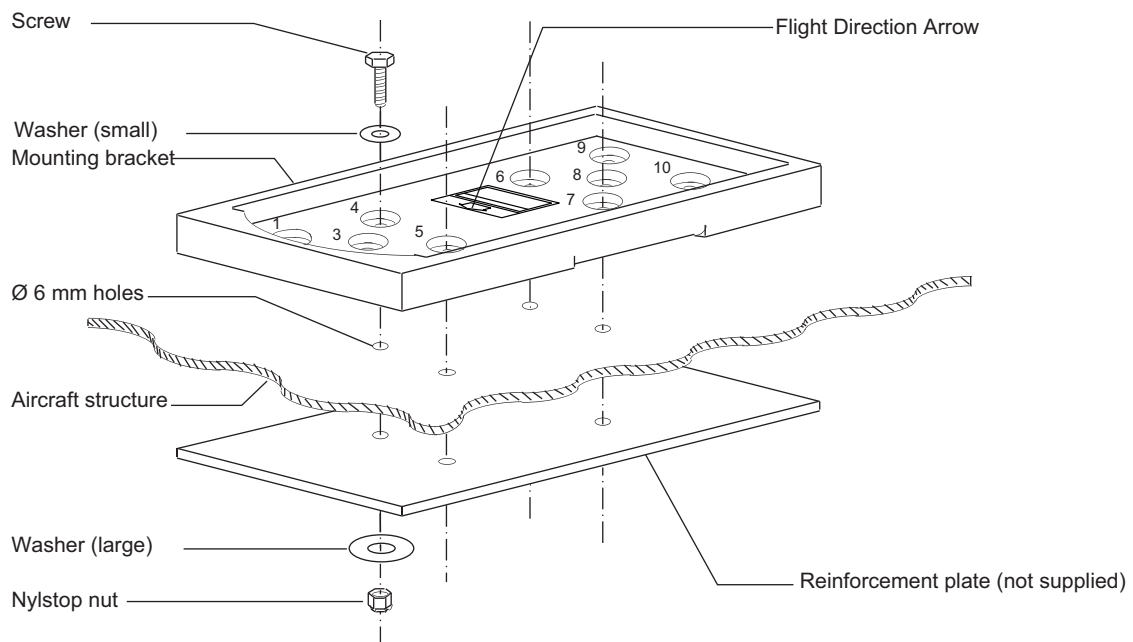

Figure 202: Bracket installation
- KANNAD 406 AF: Refer to (1) KANNAD 406 AF installation, page 205;
- KANNAD 406 AF-H: Refer to (2) KANNAD 406 AF-H installation, page 206;
- KANNAD 406 AF (6D): Refer to (3) KANNAD 406 AF (6D) installation, page 207.
- If the aircraft structure is not solid enough to withstand a 500 kg traction on the bracket, a reinforcement plate (not supplied) should be installed as shown Figure 202: Bracket installation.